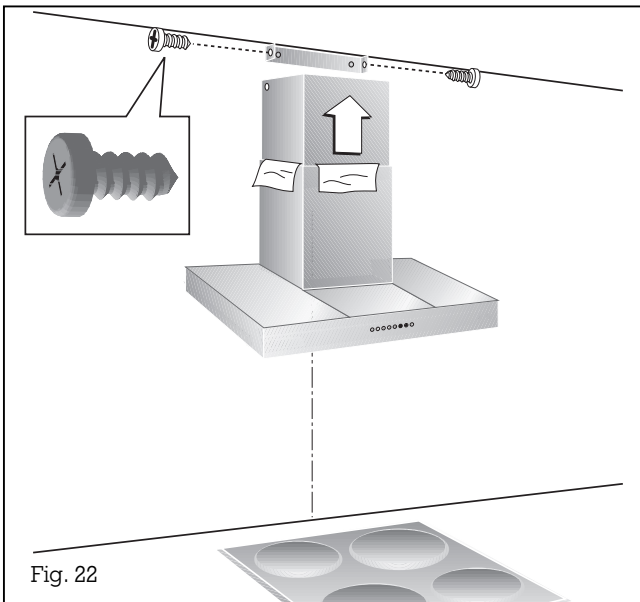

Fig. 22
- Pull the chimney top duct up into its final position and secure the top duct unit with 2 screws on the ceiling holder (Fig. 22).